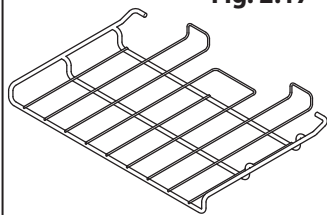

Fig. 2.18
- 1 telescopic shelf with runners (**Fig. 2.18**)